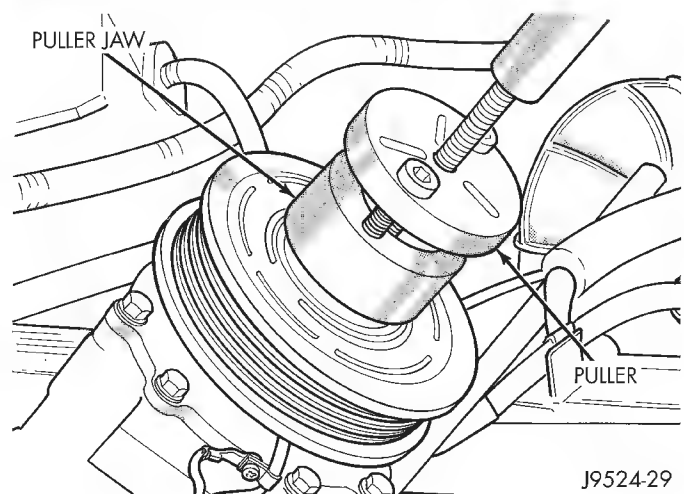

Fig. 8 Install Puller Plate
- (8) Install puller 6461 and through bolts into the jaws finger tight (Fig. 8). Turn puller center bolt clockwise until rotor pulley is free.